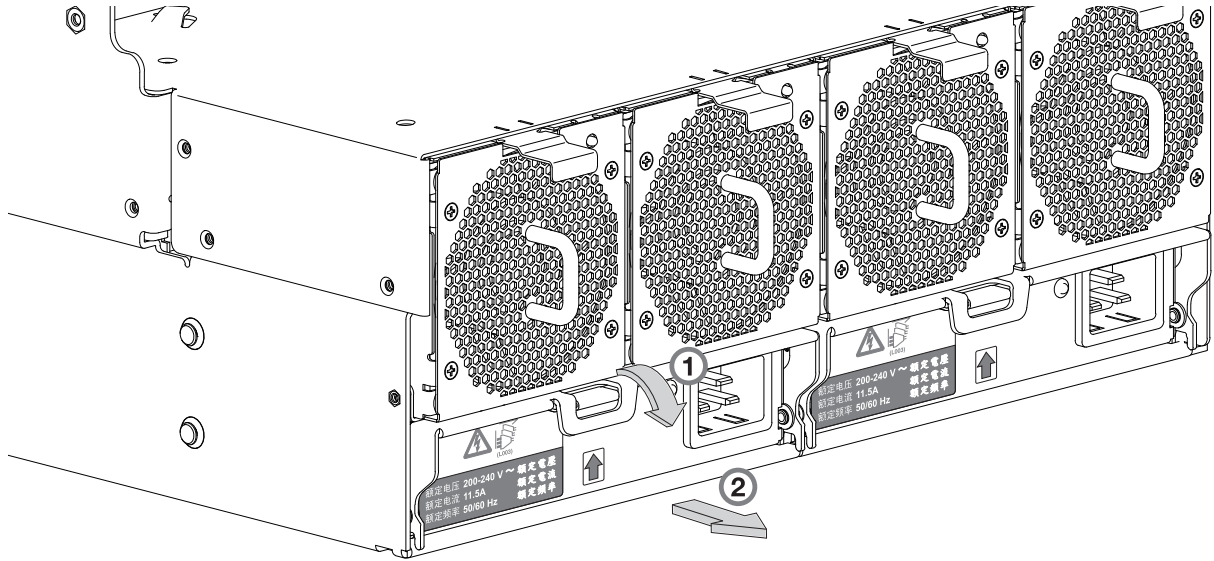
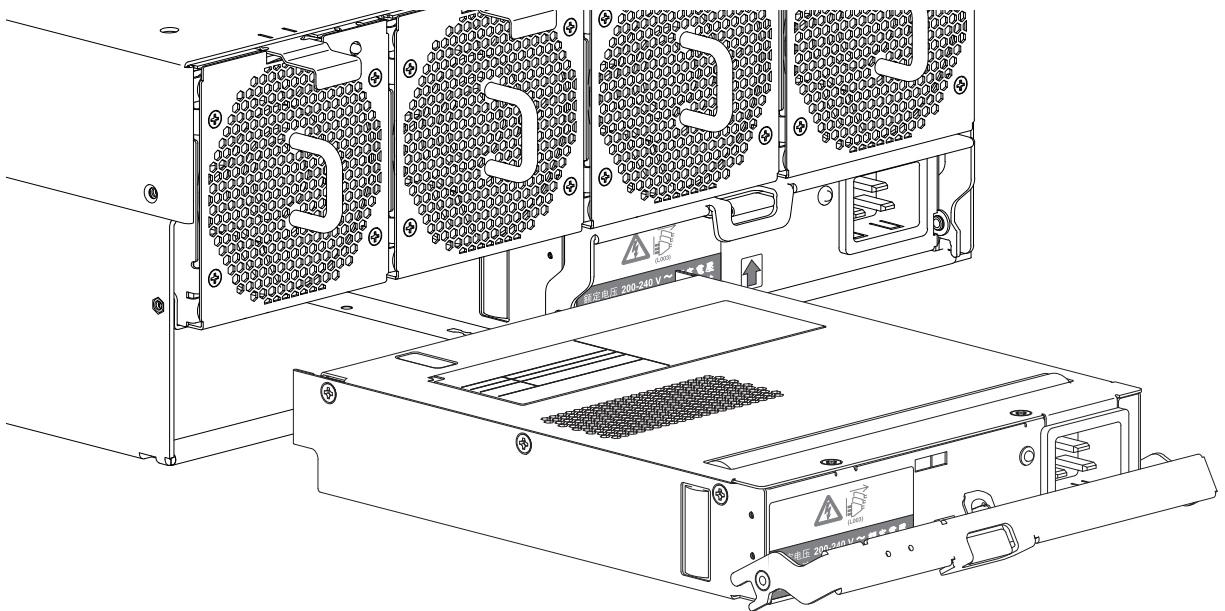

Figure 60 Removing a PSU (1 of 2)
Figure 61 Removing a PSU (2 of 2)
7. Grasp the PSU handle latch between the thumb and forefinger and press the latch tab down to unlock the handle. Revolve the handle out and downward to lever the PSU out of the enclosure as shown in Figure 60.
8. Grip the handle and withdraw the PSU, taking care to support the base of the module with both hands as you remove it from the enclosure as shown in Figure 61.
Refer to Figure 60 \(page 76\) and Figure 61 \(page 76\) when performing this procedure, but ignore the directional arrows. You will insert the module into the slot rather than remove it.